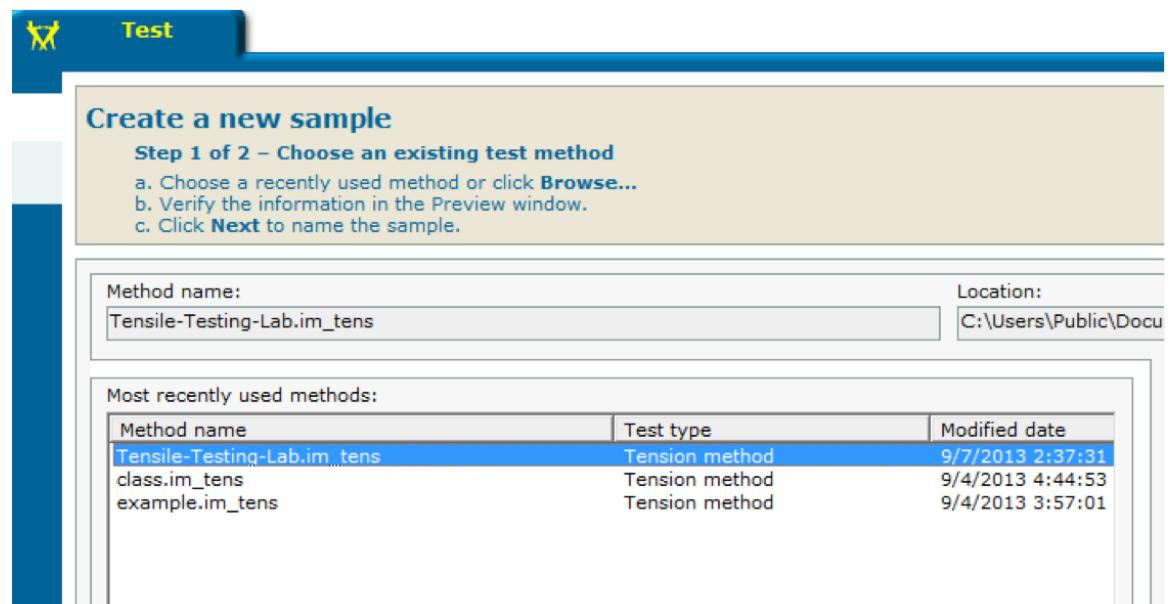

Fig. 3.4.2. Snapshot of the ‘Create a new sample’ page.
- ii. Under Create a new sample, Method name, select “**Tensile-Testing-Lab.im_tens**” and click **Next** (Fig. 3.4.2).